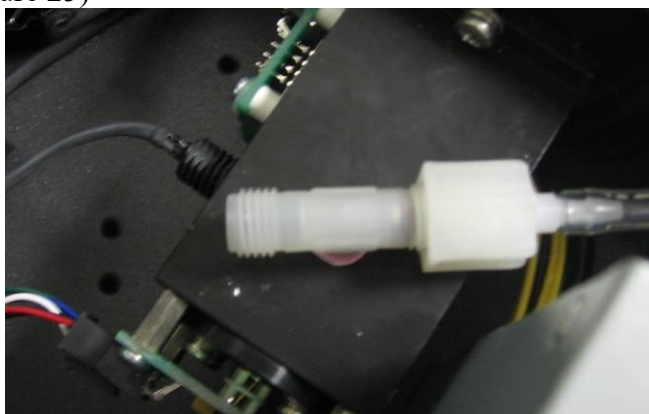

Figure 25 Measurement cell T-piece
2. Disconnect the tubing from the T-piece on top of the measurement cell (Figure 25)